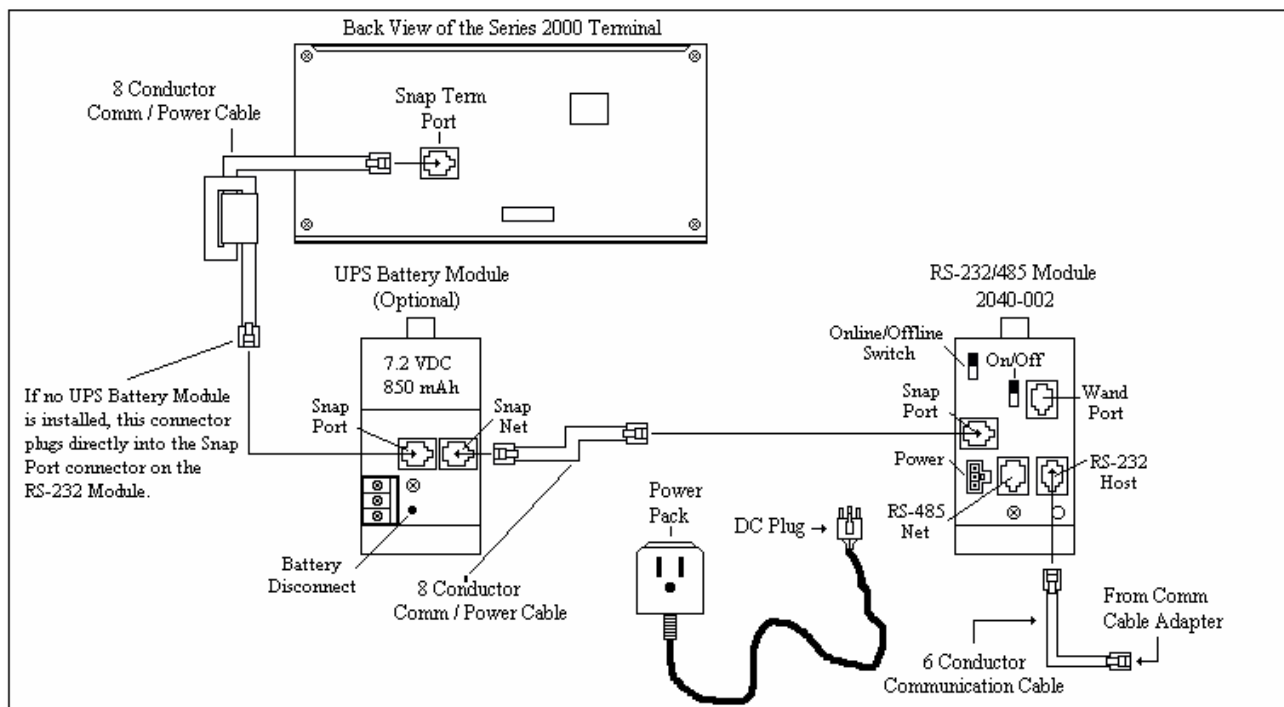

Figure 1
2. Find the On / Off switch on the RS-232/485 Module and move it to the “Off” position (Figure 1).
3. If an optional UPS Battery Module was installed, press the Battery Disconnect button to power down the Terminal (Figure 1).
4. Unplug the Terminal’s Comm / Power cable from the Snap Port connector on the RS-232/485 Module or optional UPS Battery Module (Figure 1). If an UPS Battery Module is installed, also unplug the Comm / Power cable from the Snap Port connector on the RS-232/485 Module (Figure 1).
5. Unplug the 6 conductor communication cable from the RS-232 Host connector on the RS-232/485 Module (Figure 1).
6. Unplug the DC Plug from the Power Pack from the Power connector on the RS-232/485 Module (Figure 1).
7. Unplug any cables from both the Wand Port and / or RS-485 Net connectors on the RS-232/485 Module (Figure 1).
9. Plug the DC Plug from the Power Pack into the Power connector on the RS-232/485 Module (Figure 1).
10. Plug the 6 conductor communication cable into the RS-232 Host connector on the RS-232/485 Module (Figure 1).
11. Plug any cables for the Wand Port and / or RS-485 Net connectors back into the RS-232/485 Module (Figure 1).
12. Plug the Terminal’s Comm / Power cable into the Snap Port connector on the RS-232/485 Module or into the Snap Port connector on the UPS Battery Module (Figure 1). If an UPS Battery Module is installed, also plug the Comm / Power cable from the UPS Battery Module to the Snap Port connector on the RS-232/485 Module (Figure 1).
13. Find the Online / Offline switch on the RS-232/485 Module and make sure it is in the “Online” position (Figure 1).
14. Find the On / Off switch on the RS-232/485 Module and move it to the “On” position (Figure 1).